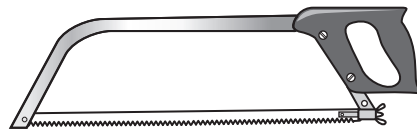

Fig. 13.6
- (iv) Fig. 13.6 shows a saw that could be used to cut a length of acrylic rod to make the connector.
Name the type of saw shown in Fig. 13.6.